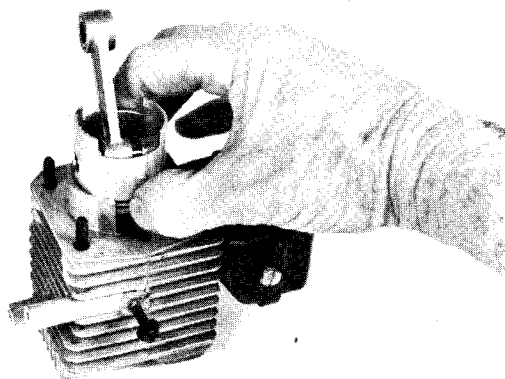

Fig. 21 — Installing Piston into Cylinder
4. Compress rings and insert piston into cylinder, Fig. 21.